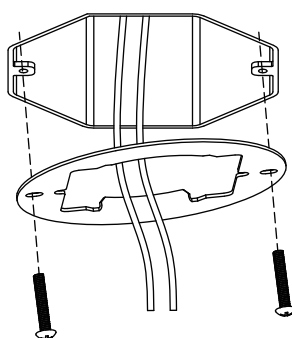

fig. 2
3. Attach the mounting bracket to the J-box with two of the provided screws, ensuring the fixture's insert tabs face the J-box. (fig. 2)